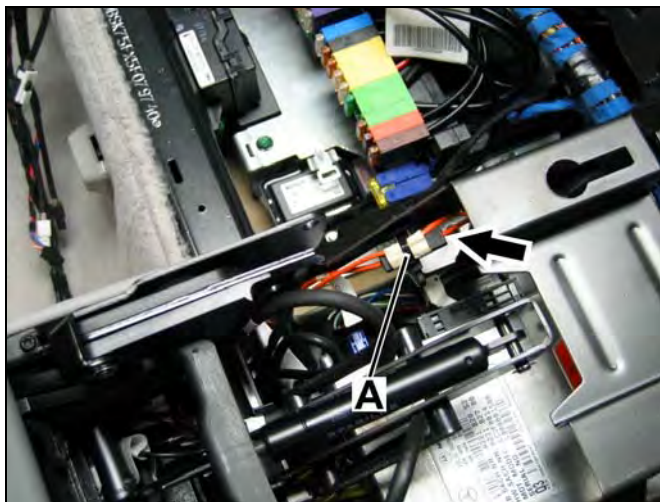

Figure 7
1. Find the MOST fiber, and coupling, taped and wire tied together in the exposed center console area (Figure 7).
2. Cut the wire tie (A, Figure 7), and remove the tape bundling the MOST fiber and coupler.
3. Disassemble the MOST coupler and carefully remove the fiber ends (Arrow, Figure 7).